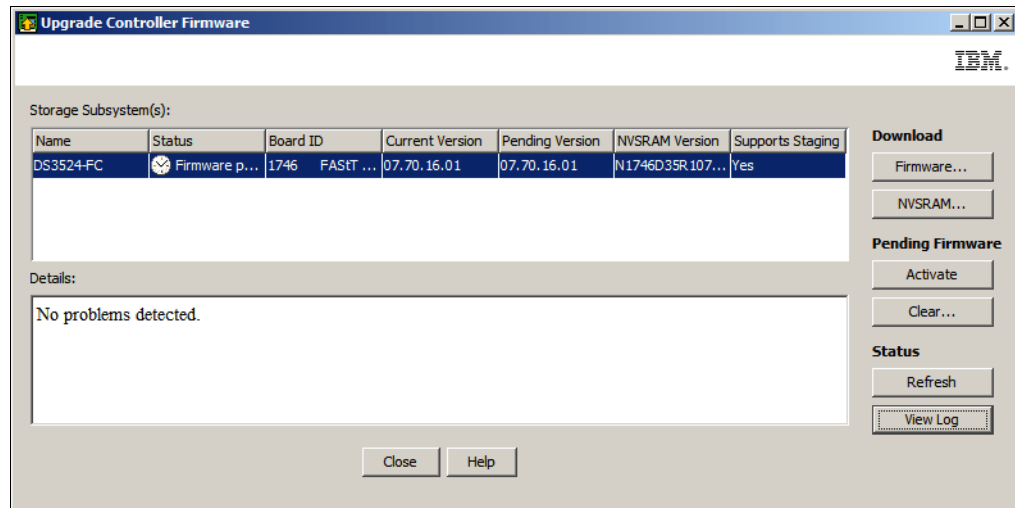

Figure 14-49 Firmware pending
- d. Figure 14-49 on page 364 shows the status after the firmware and NVSRAM have been transferred. The status is reported as *Firmware pending* and the **Activate** button can now be clicked.